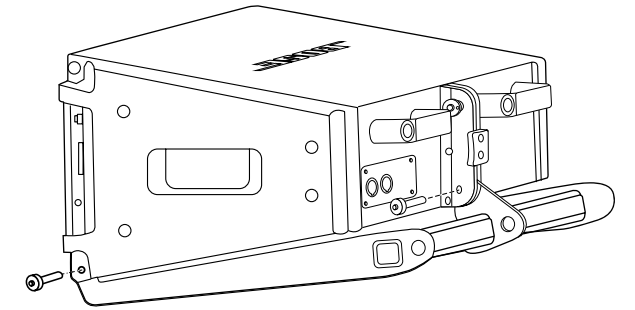

Fig 6. Insert pins to attach pull back bracket to module.
4. Insert two front pins (one on each side), then insert one rear pin to secure pull back bracket to module. See Fig. 6.